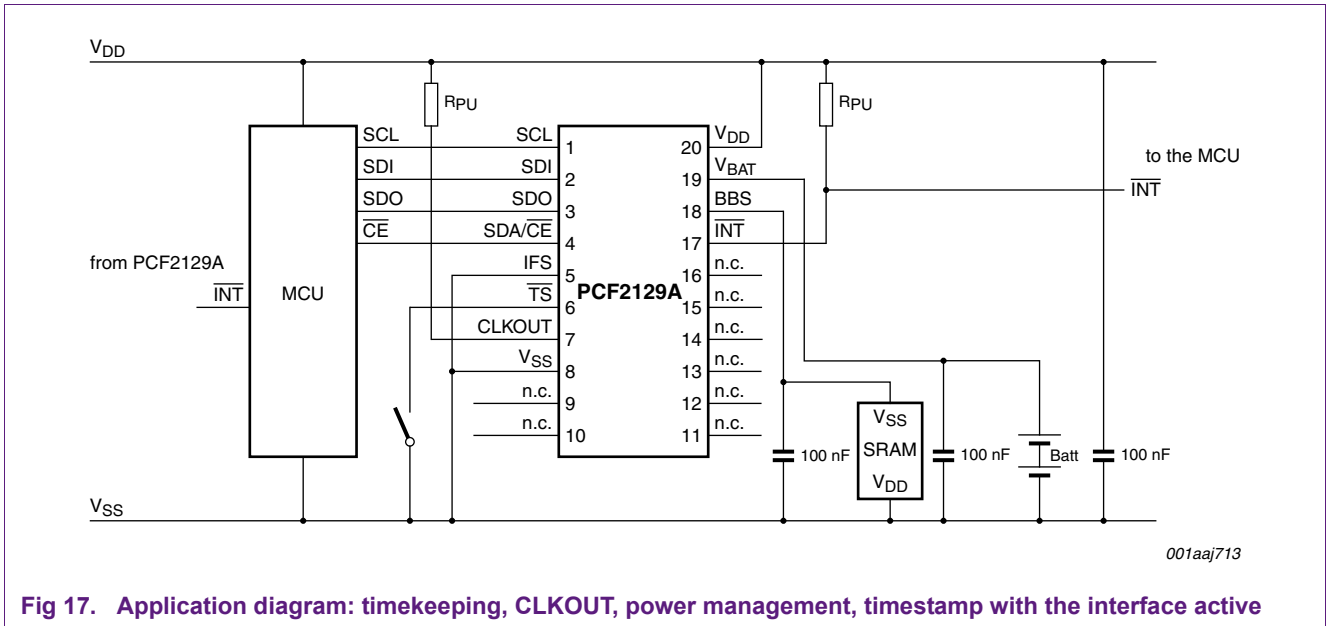
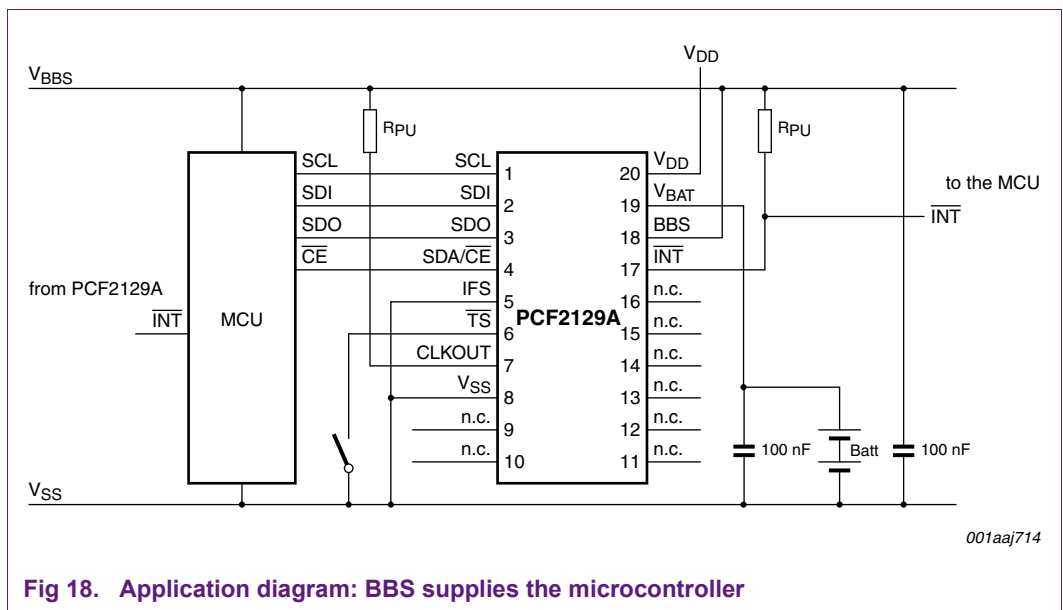

Fig 17. Application diagram: timekeeping, CLKOUT, power management, timestamp with the interface active
Fig 18. Application diagram: BBS supplies the microcontroller
PCF2129A used for timekeeping, power management, CLKOUT and timestamp functions (see Figure 17):
- BBS supplies an external device, e.g. SRAM (see Figure 17) or a microcontroller (see Figure 18)